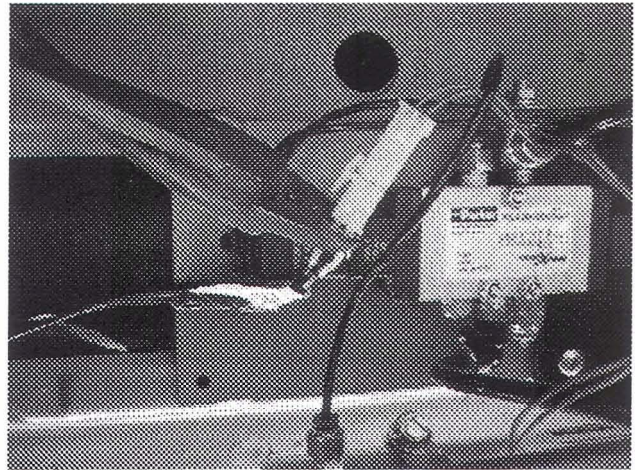

Figure 4
4. Disconnect the entrance door position switch from the body harness by cutting the wires behind the connector. **Figure 4**